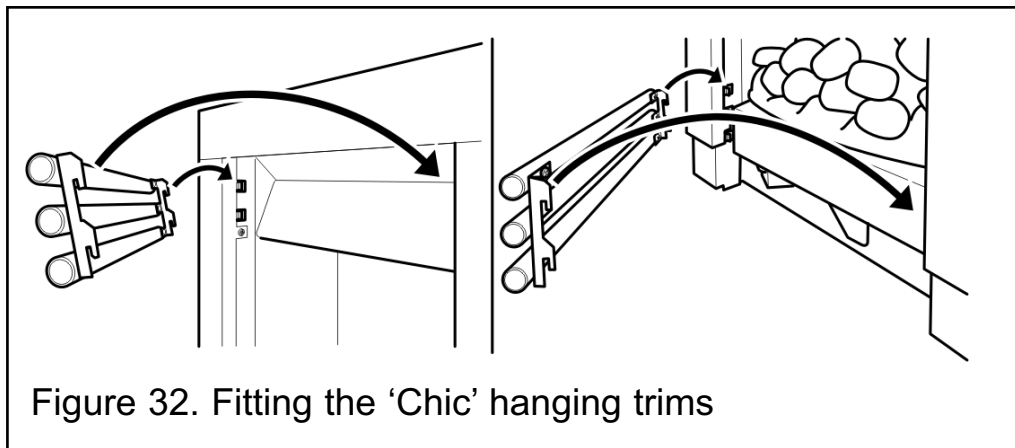

Figure 32. Fitting the 'Chic' hanging trims
6. Supplied in the fascia pack are two tubular trim sets. Hang one set at the top of the fascia and the other at the bottom (See figure 32).